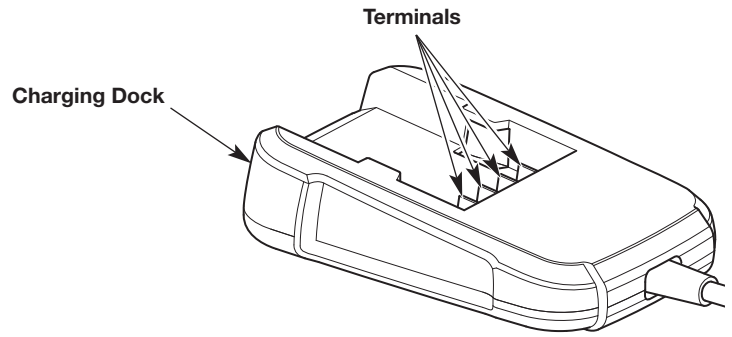

Fig. 12
- Keep the battery charger clean and clear of debris. Do not allow foreign material into the charging dock or onto the terminals (Fig. 12). Inspect the battery charger for foreign material before each use.